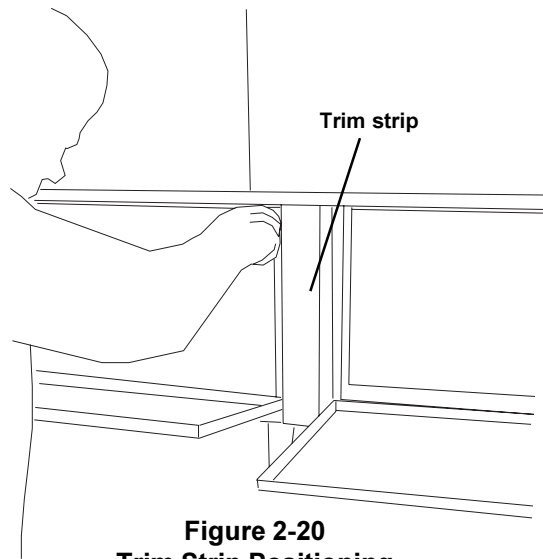

Figure 2-20
7. Attach the front trim strip between the two ovens, as shown in Figure 2-20.